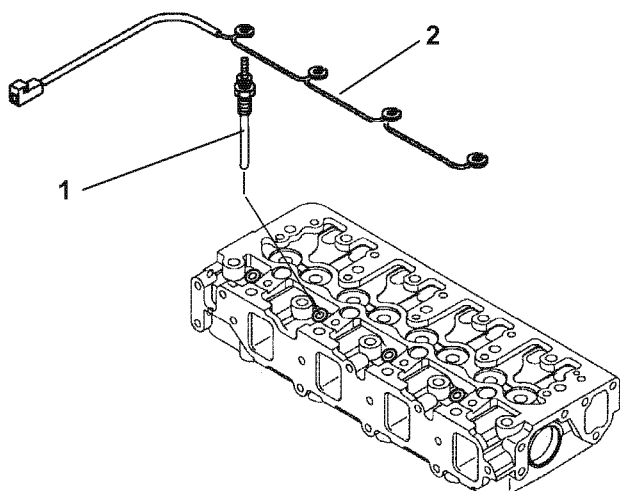

**Figure 6-5**
4. Remove the intake manifold bolts (**Figure 6-5, (1)**). Remove the intake manifold (**Figure 6-5, (2)**). Discard the intake manifold gasket (**Figure 6-5, (3)**).
5. Remove the exhaust manifold bolts (**Figure 6-5, (4)**) and nuts (**Figure 6-5, (5)**). Remove the exhaust manifold (**Figure 6-5, (6)**) and the exhaust manifold gasket (**Figure 6-5, (7)**).